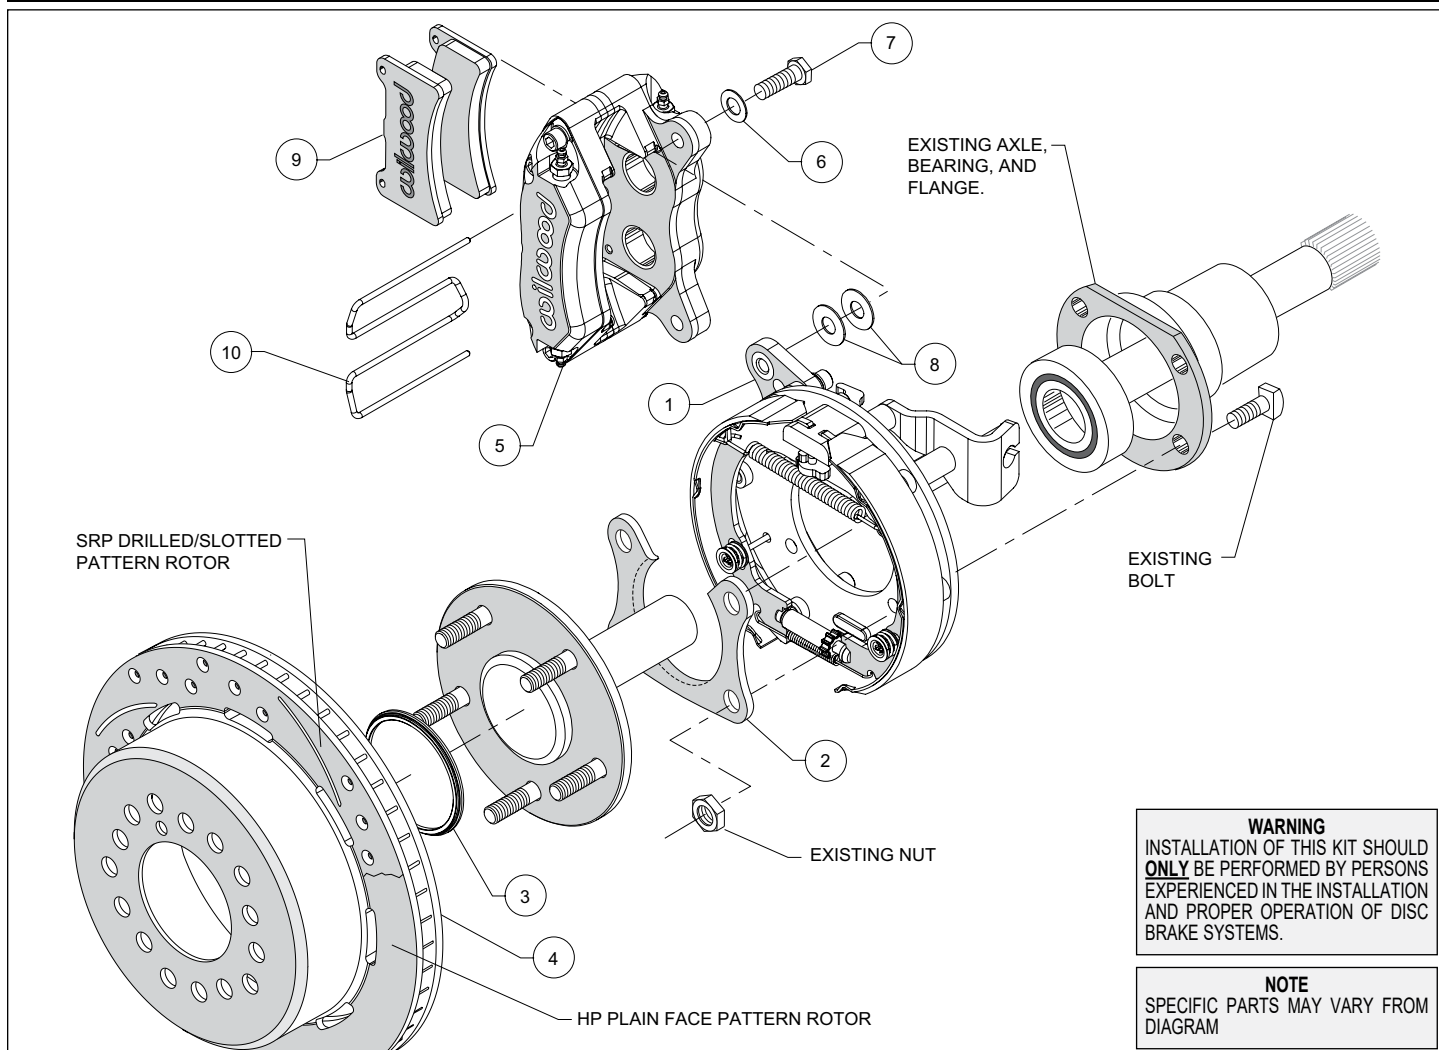
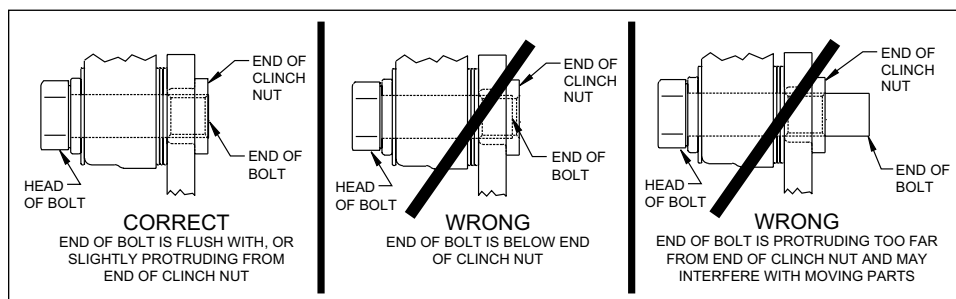

Figure 1. Typical Installation Configuration
Figure 5. Clinch Nut Engagement Diagram
**NOTE:** Numbers in parenthesis refer to the parts list and Figure 1 on the preceding pages.
**CAUTION:** All mounting bolts must fully engage clinch nuts. Be sure to check that all bolts are either flush or protruding through flanged side of clinch nut after shimming, Figure 5.
- Orient the bracket assembly (1) as shown in Figure 1 and Photo 1 and slide it onto the axle. Insert the axle and bracket into the axle housing. Ensure that the bracket assembly backing plate fits flush against the axle housing flange.
- Install the bearing retainer (2) with the opening pointing upward and the lip facing inward (toward the bearing), as shown in Figures 1 and 4, and Photo 2. Secure retainer and bracket assembly to the axle housing flange using the Original Equipment Manufacturer (OEM) bolts and nuts, Figure 1. Apply red *Loctite*® 271 to the OEM bolt threads and torque to OEM specifications.
•Slide the rotor registration adapter (3) onto the axle register on the axle flange with the smaller O.D. facing toward the rotor/hat (4), Photo 3. Align the correct hole pattern in the rotor/hat with the stud pattern on the axle flange and slide into place, Figure 1 and Photo 4. **NOTE:** The rotor/hat must fit flush against the axle flange or excessive rotor run out may result. Install three lug nuts (finger tight) to keep the rotor/hat assembly in place while continuing with the installation. **NOTE:** Some OEM and after market axles come with stud sizes larger than 0.50" diameter. Verify stud size and have a qualified machine shop drill the bolt circle of the hat/rotor to the correct stud size, if necessary.
•**NOTE:** Please reference the caution statement at the beginning of the assembly instructions. Mount the caliper (5) onto the caliper mounting bracket (1) using bolts (7) and washers (6), as shown in Figure 1. Initially place two .035" thick shims (8) on each bolt between the caliper and the bracket, Photo 5. Temporarily tighten the mounting bolts and view the rotor (4) through the top opening of the caliper. The rotor should be centered in the caliper, Photo 6. If not, adjust by adding or subtracting shims between the bracket and the caliper. Always use the same amount of shims on each of the two mounting bolts. **NOTE:** The end of each bolt must be flush with or slightly protruding from the head of the clinch nut, as shown in Figure 5. If necessary place spare shims between washer (6) and caliper mounting ear to achieve the proper clinch nut engagement. Once the caliper alignment and clinch nut engagement are correct, remove the bolts one at a time, apply red Loctite® 271 to bolt threads, and torque to 40 ft-lb.